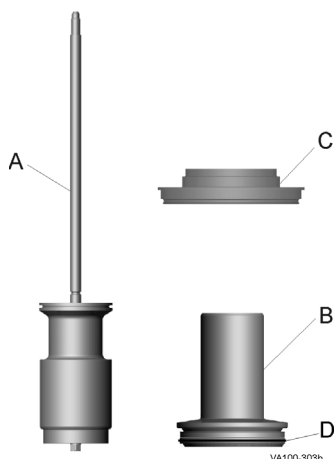

Figure 13 - Stem Removal
The seat cleaning movements are fixed at 0.16" upper and 0.28" lower. Confirm the stroke lengths after proper assembly of the upper stem (Figure 13, item B) and nut (Figure 20, item N). Tighten both clockwise until stopped, metal to metal.
2. To remove the upper stem (Figure 13, item B), turn the stem counter-clockwise and remove it from the actuator. If the adapter (item C) comes out of the yoke, handle it with care. The blocker insert is retained to the upper stem. To re-install, tighten it clockwise until it is stopped.
Table 4: Callout table for Figure 13